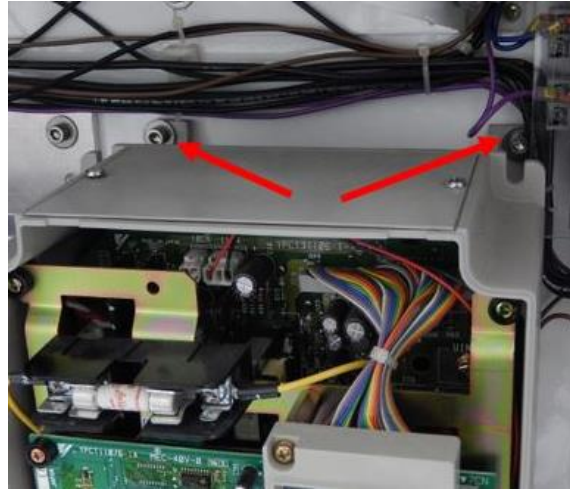

Figure 5: Upper Mounting Screw Locations
6.2.3 **Remove** mounting screws from GPD 503 driver. See *Figure 5 & 6* below for mounting screw locations.